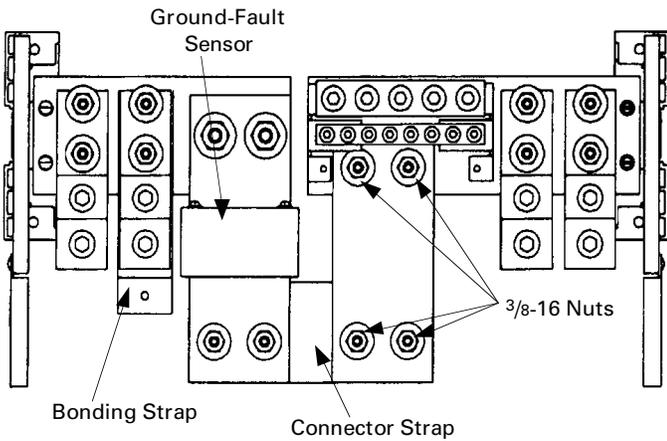

Figure 4. 800-1200 A neutral with ground-fault sensor.
- 800–1200 A: Loosen the 3/8-16 nuts, as shown in Figure 4, and remove the connector strap. After testing, reassemble and tighten the nuts to 14 ft-lb.